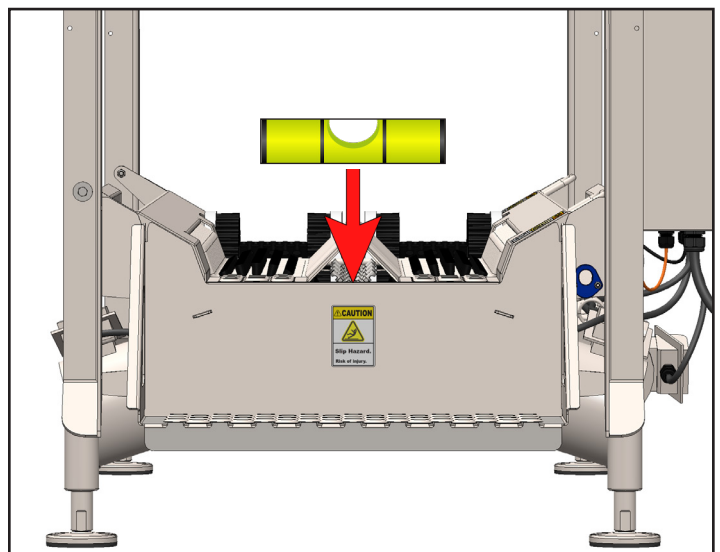

Fig. 6.2: Level and stabilize unit using level against end cap of tub
3. Use a level to verify the unit is stable and leveled at each end of the tub [Figure 6.2]. Adjust each leveling foot as necessary by twisting clockwise or counter-clockwise to increase or decrease the height.